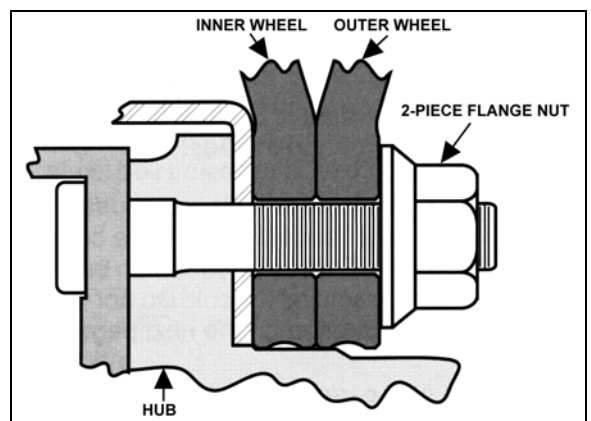

FIGURE 5: DRIVE AXLE WHEELS 13007
1. Loosen a hex stud nut three turns (Figure 5);